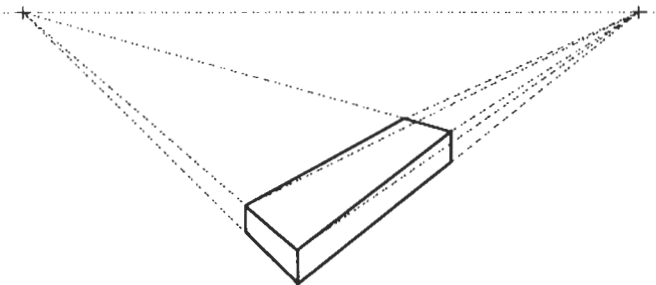

Figure 3 - Sample Two-point Perspective
**Perspective** drawings describe an object as it appears to the eye. The most distant points appear smaller than those closest to the observer even if they are actually the same size. The most common types of perspective drawings are the one-point and two-point perspective. (See Figure 3.)